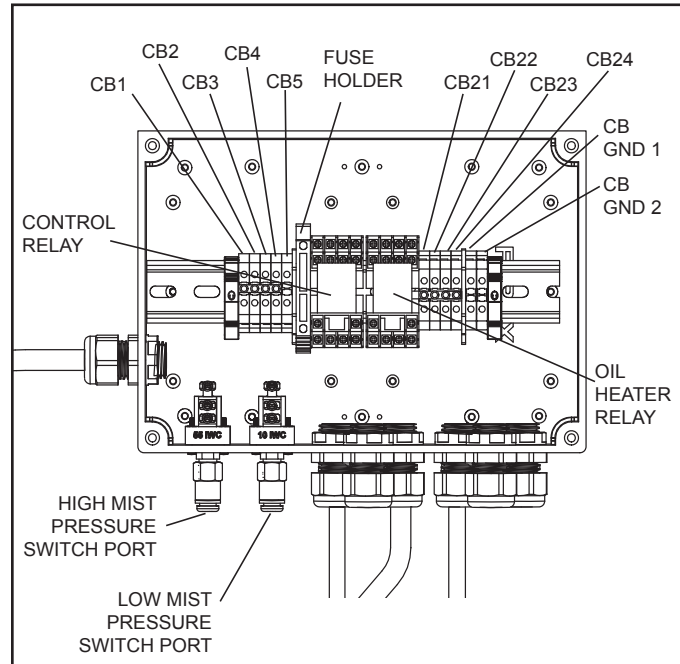

Figure 10 Control Box Terminal Locations
5. Connect Line (L1), Neutral (N) and Ground (GND) to the unit as per Figure 10.
- B. The neutral conductor (N) should be connected to the empty terminal at location CB21.